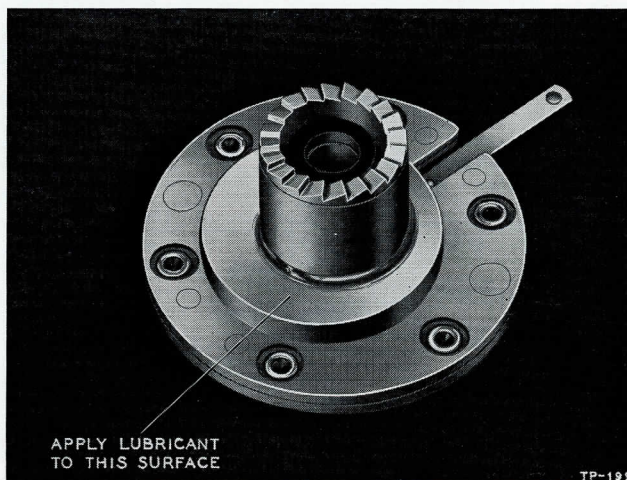

FIGURE 13. LUBRICATION OF TURNTABLE CAM
23. Clean the turntable cam and sawtooth gear with carbon tetrachloride. Dress the cam surface and the inside of the turntable rim with No. 0000 sandpaper. If the rim of the turntable has been bent, even slightly, replace it with a new one. *Do not attempt to straighten a bent rim.* Put a thin coat of Lubriplate on the surface of the turntable cam, as indicated in figure 13.